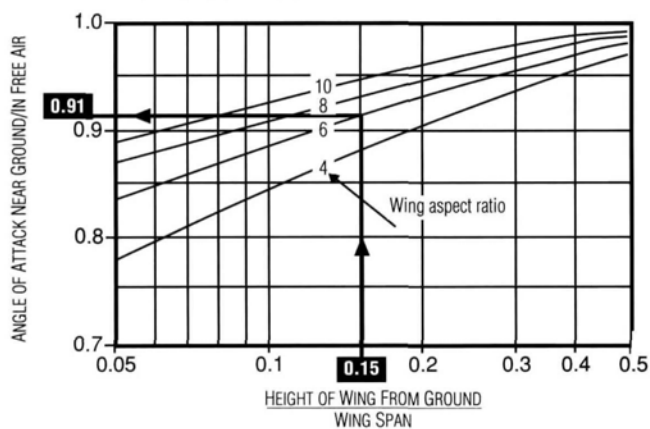

Figure 11. Impact of ground effect on angle of attack.
- **Ground effect**, as shown in Figure 11, at 0.15 of the wingspan (60 x 0.15, or 9 inches) above ground, the stall angle is reduced to 0.91 of its value at altitude,